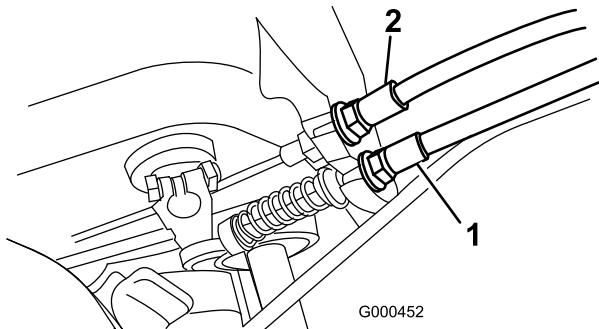

Figure 45
2. To increase cable tension, loosen front cable jam nut and tighten back cable jam nut (Figure 45) until a force of 12-16 lb. is required to engage traction control.